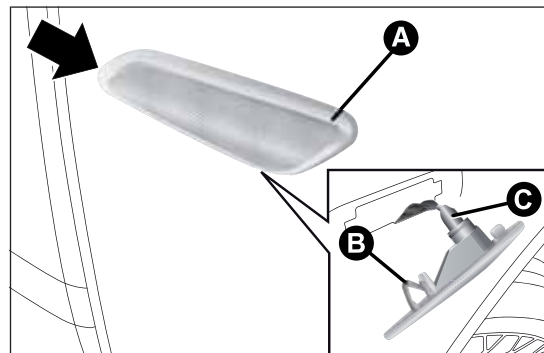

fig. 134
- ❑ adjust the lens A fig. 134 to compress in the internal catch B, then pull the unit outwards;